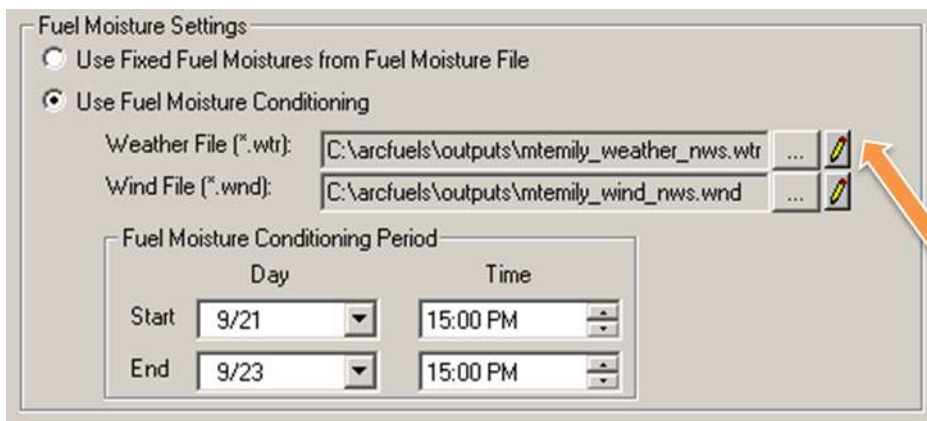

Figure 4-19—Fuel moisture setting portion of the Inputs tab of a FlamMap5 run.
- 2) Select the *Use Fuel Moisture Conditioning* option on the **Inputs** tab (fig. 4-19).
- 4) Set the *Fuel Moisture Conditioning Period* (see fig. 4-19).